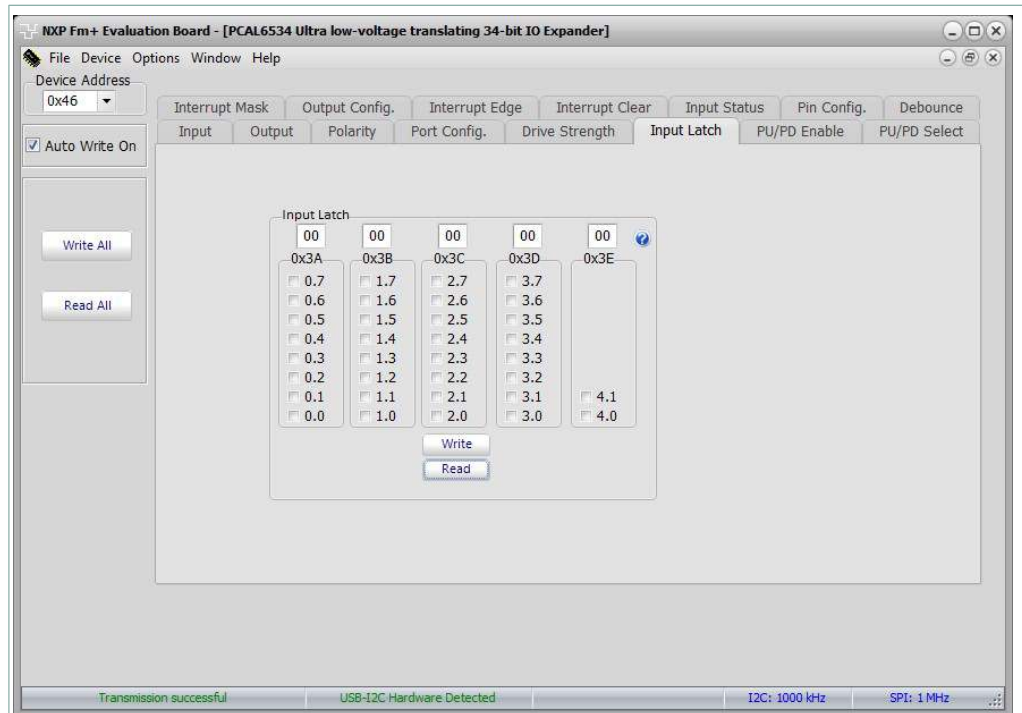

Figure 15. Device configuration screen for registers 3A-3E hex
- 7. Input latch registers read or write are shown in Figure 15.